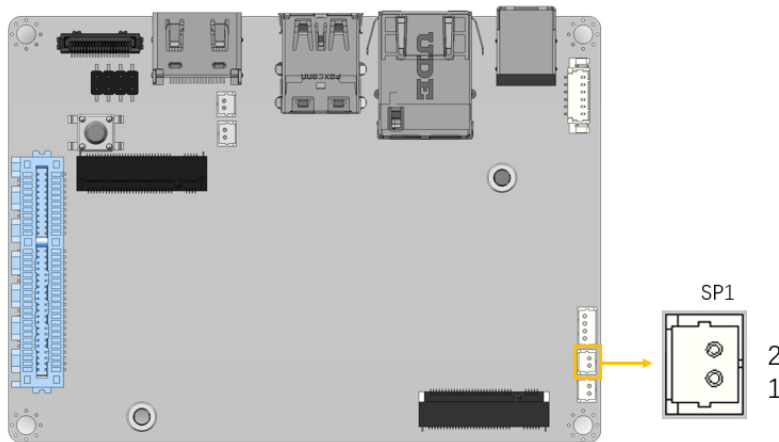

Figure 3-15: Buzzer Connector Location
- CN Location:** See **Figure 3-15**